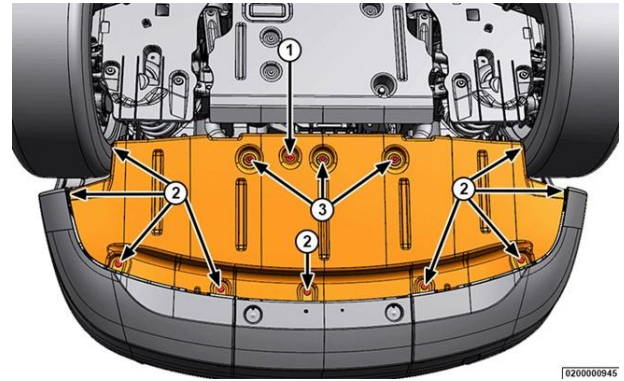

Figure 14 – Rear Belly Pan
- 31. Remove the belly pan bolts (3) (Figure 14).
- 32. Remove the belly pan screws (2) (Figure 14).
- 33. Remove the fastener (1) (Figure 14).
- 34. Remove the rear bell pan (Figure 14).